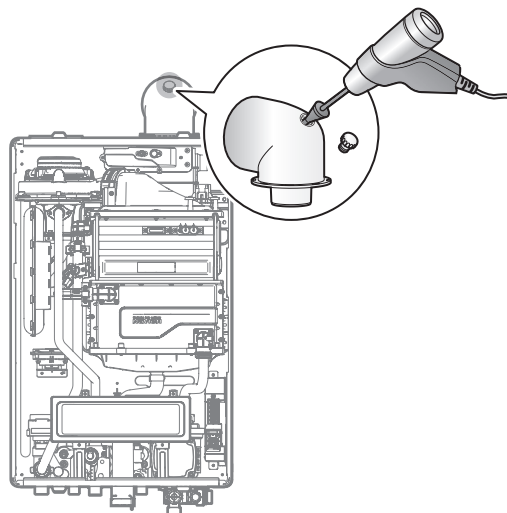

Figure 7. Insert the Analyser
- Loosen the screw, rotate the plate and remove the gasket to access the emissions monitoring port as shown in Figure 7.
- Insert the analyser into the port (Figure 7).